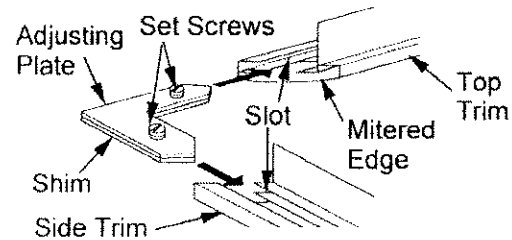

Figure 13 - Assembling Trim
- Align shim under adjusting plate as shown in Figure 13.
- Slide one end of adjusting plate/shim in slot on mitered edge of top trim (see Figure 13).
- Slide other end of adjusting plate/shim in slot on mitered edge of side trim (see Figure 13).